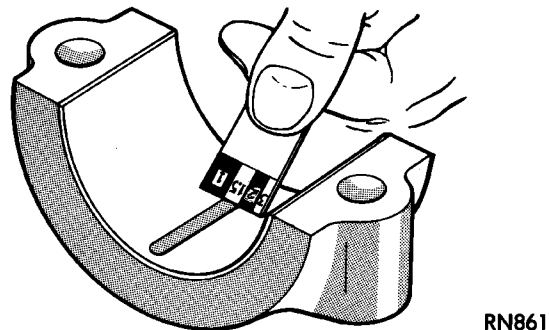

Fig. 3 Clearance Measurement
(2) Remove the bearing cap and compare the width of the flattened Plastigage with the scale provided on the package (Fig. 3). Plastigage generally comes in 2 scales (one scale is in inches and the other is a metric scale). Locate the band closest to the same width. This band shows the amount of clearance. Differences in readings between the ends indicate the amount of taper present. Record all readings taken (refer to Engine Specifications).
(4) Remove the bearing cap and compare the width of the flattened Plastigage with the scale provided on the package (Fig. 3). Plastigage generally comes in 2 scales (one scale is in inches and the other is a metric scale). Locate the band closest to the same width. This band shows the amount of clearance. Differences in readings between the ends indicate the amount of taper present. Record all readings taken (refer to Engine Specifications).
(5) Plastigage is available in a variety of clearance ranges. The 0.025-0.076 mm (0.001-0.003 inch) range is usually the most appropriate for checking engine bearing clearances.